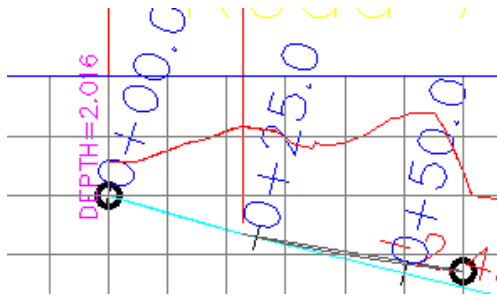

Figure 6-71 The depth label displaying the depth between two points selected at the first circle
16. Next, drag the cursor upwards and click on the top axis of the profile view to specify the second point; the depth between the two points picked in the profile view is displayed in the **Depth** label, as shown in Figure 6-71.